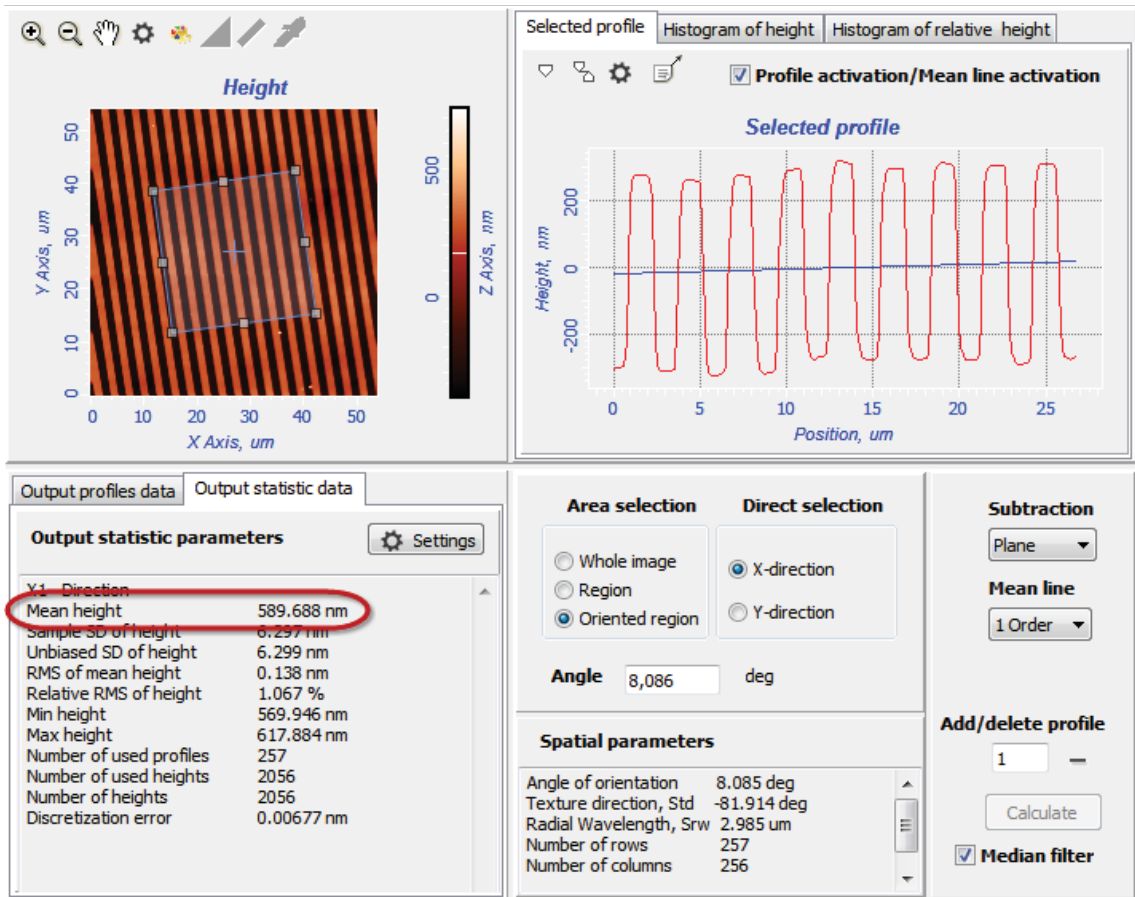

Fig. 1-23. Z Calibration window with results of calculation
9. Height of the grating periodic profile (**Mean Height**) is displayed in the **Output statistic data** tab (see Fig. 1-23).